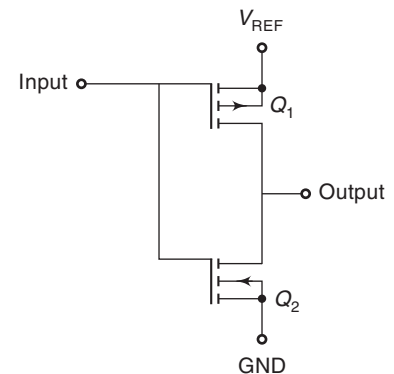

Fig. 17.33 Voltage Switch.
14. The simplest scheme for a voltage switch is an integrated circuit containing a field effect transistor. This is shown in Fig. 17.33.